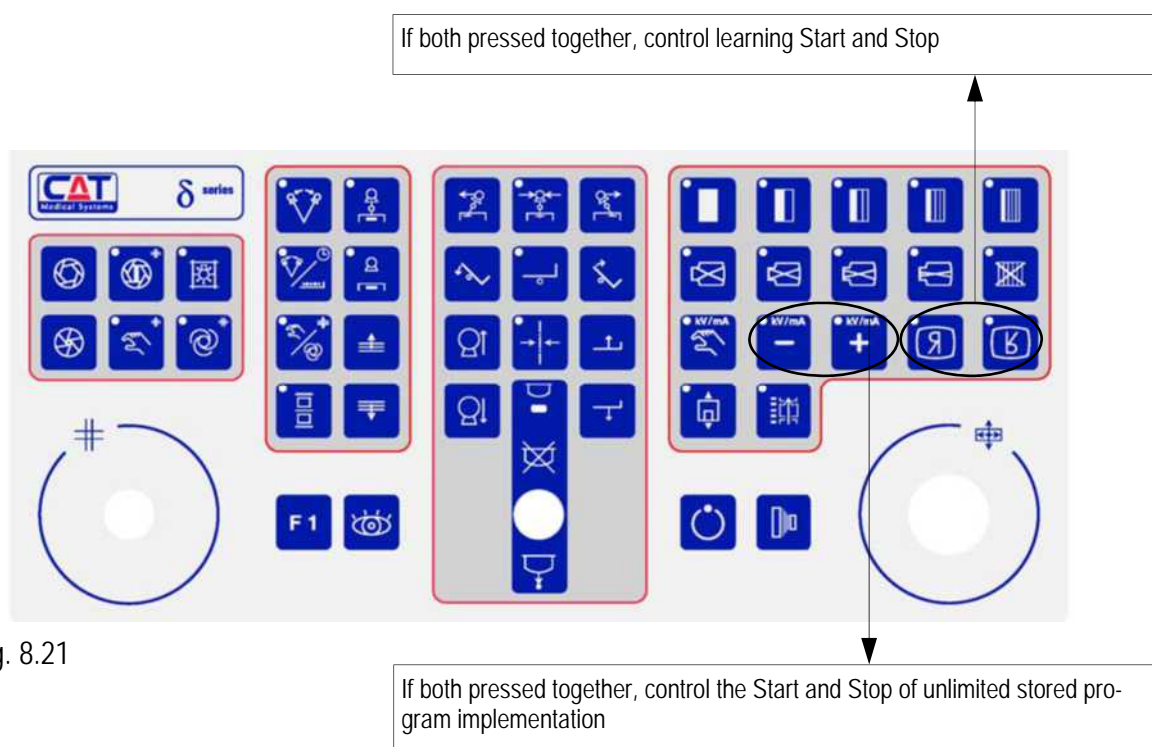

fig. 8.21
2. "SELF-LEARN" function: pressing the keys as shown in fig.8.21 enables the self-learn function; all the keys that are pressed on the console not only produce a contemporaneous action, but are also recorded with a time lapse of one second. If a command is enabled and disabled within the one second interval, counted by the console, it will not be recorded. To proceed correctly, it is sufficient to observe the information shown on the FIP at page 26 which shows:
3. "CYCLE IMPLEMENTATION" function: pressing the specific commands as in fig.8.21 enables the stored cyclic implementation function; all the commands that have been recorded or which are in any case present in the specific memory area, are carried out cyclically. The values on FIP at page 26 are shown on the display: